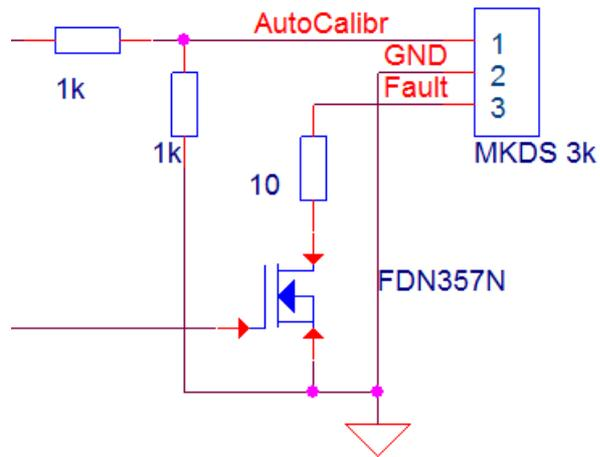

Figure 8. Fault output circuit
5	Connector for fault output and calibrate input (see Figure 8)
- The **Calibrate LED (#6)** lights while driver is calibrated. The same time pin 3 of **connector (#5)** is clamped to GND (see Figure 8).